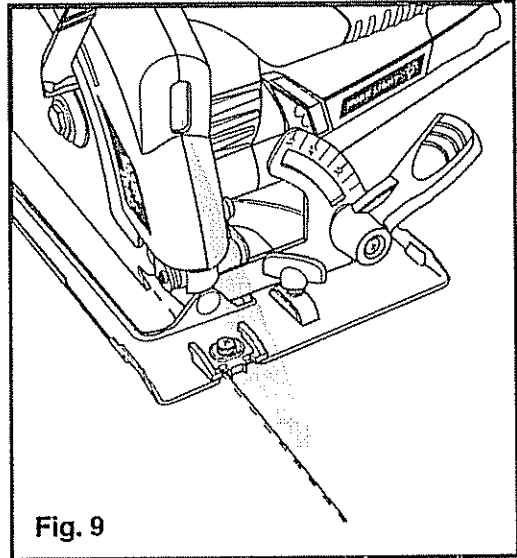

Fig. 9
USING THE LASER TRAC™ LASER LIGHT FEATURE (Fig. 9)
5. Align laser beam with line-of-cut (see Fig. 9)